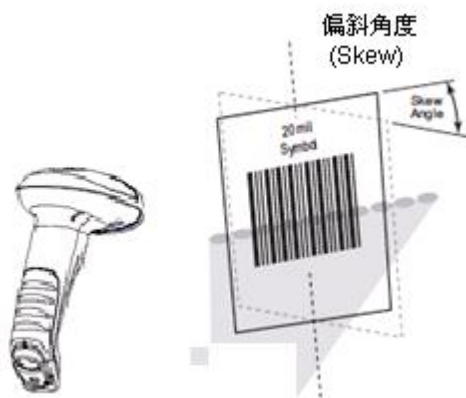

Fig. 1-16
- ◇ Skew:  $\pm 75^\circ$ ,  $0^\circ$  Roll and  $0^\circ$  Pitch (Fig. 1-16)